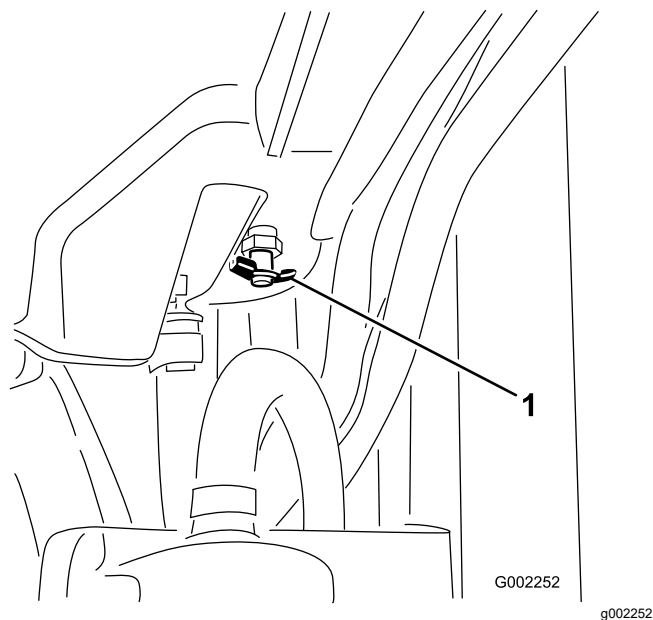

Figure 92
4. Open the drain valve and drain the coolant into the pan (Figure 92).
5. Close the drain valve (Figure 92).